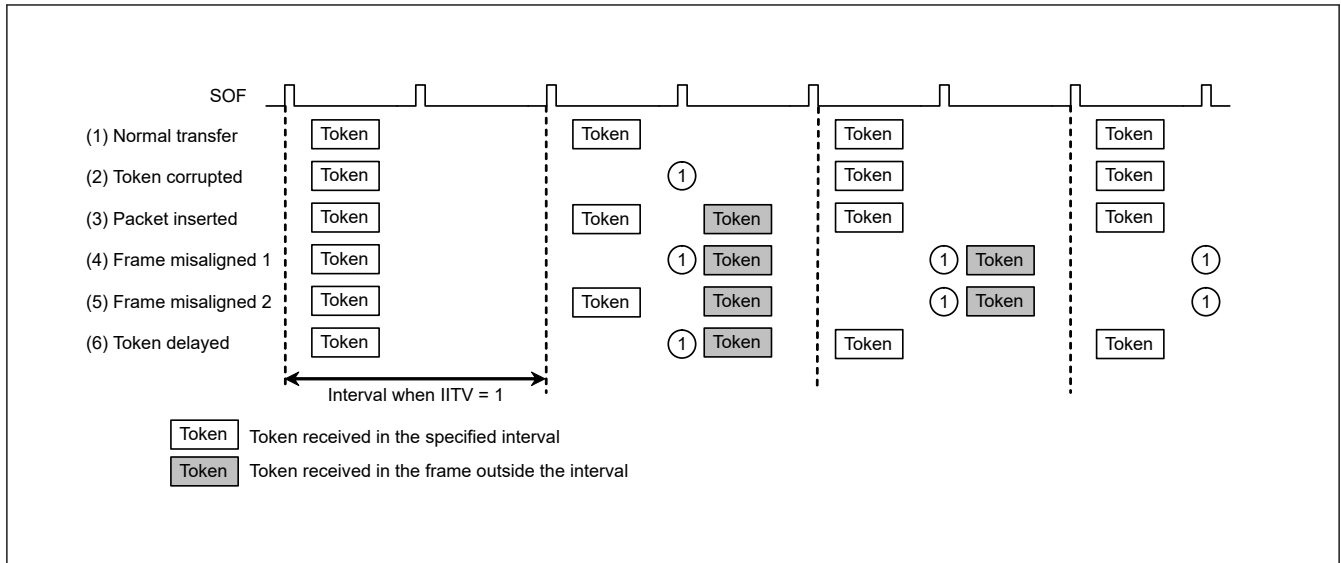

Figure 37.22 Example interval error occurrence when IITV = 1
Figure 37.22 shows an example interval error occurrence. There are five types of interval errors, as shown in the figure. An interval error occurs at timing (A), and the buffer flush function is activated.